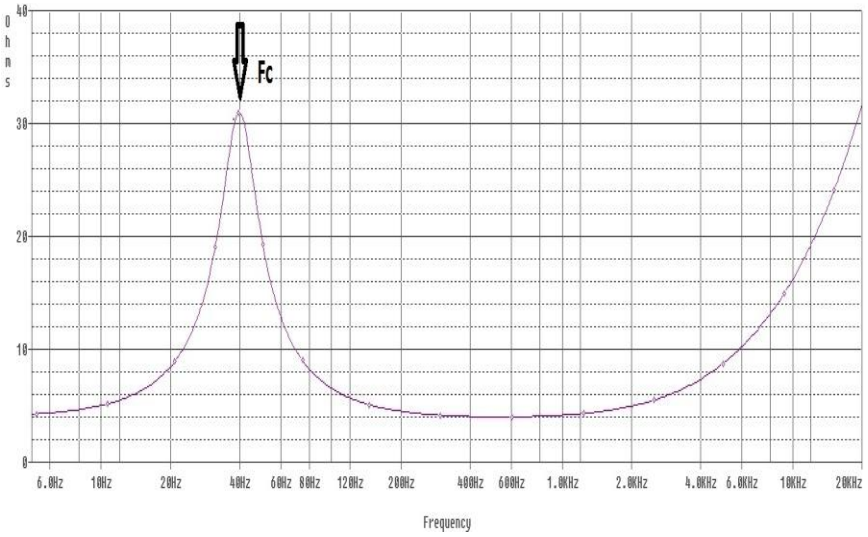

Figure 3,  $f_c$  of a single 4 ohm, 15 inch subwoofer in a 2 cubic feet sealed box.
5. After the unit is operating, turn the frequency down as far as it goes. Then slowly raise the frequency until the peak in impedance is found. If you go too far and pass the peak, just back down the frequency until the peak in impedance is found. Figure 3 shows the  $f_C$  of the same 15 inch woofer we tested in the *Finding the  $f_S$  of a Raw Speaker Driver* section, but now in a 2 cubic foot sealed box. We measured the  $f_C$  to be 40 Hz.